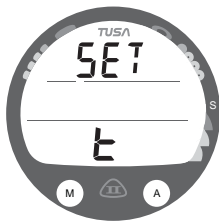

Fig. 33 - SET T (Time)
- > Depressing the A and S buttons simultaneously for 8 seconds while the NORM (or GAUG) Surface Main screen is displayed, will access the Set T screen (Fig. 33).